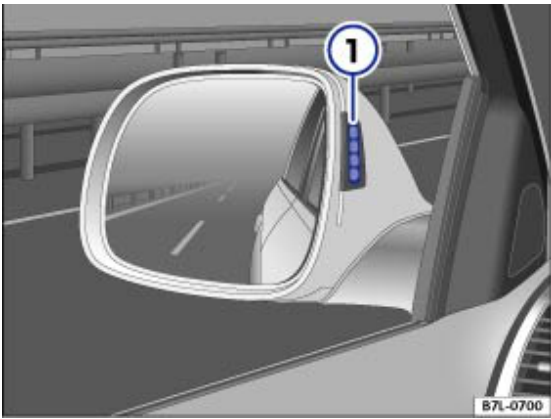

Fig. 176 Display in the exterior mirror
When changing lanes, the system will, if it calculates that the situation is critical, warn the driver of a collision using the displays in the external mirrors on each side of the vehicle → Fig. 176.
Once the lane change assist system is ready for use, the display in the exterior mirror → Fig. 176 ① briefly lights up to confirm.